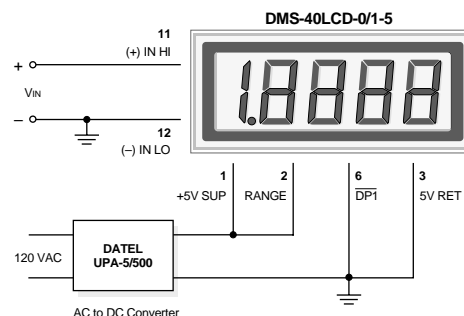

Figure 2. Single-Ended Input Configuration
- 1. Single-Ended Input Configurations:** True single-ended measurements can only be made with 5V-powered meters. The circuit of Figure 2 avoids problems normally associated with ground loop currents. Separate ground runs should be used for 5V RETURN (pin 3) and (–) INPUT LO (pin 12).